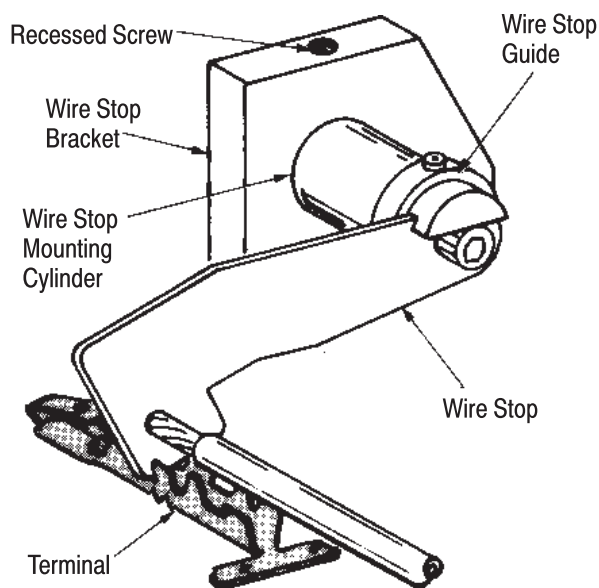

Figure 5
1. Loosen the screw on the wire stop guide. See Figure 5.